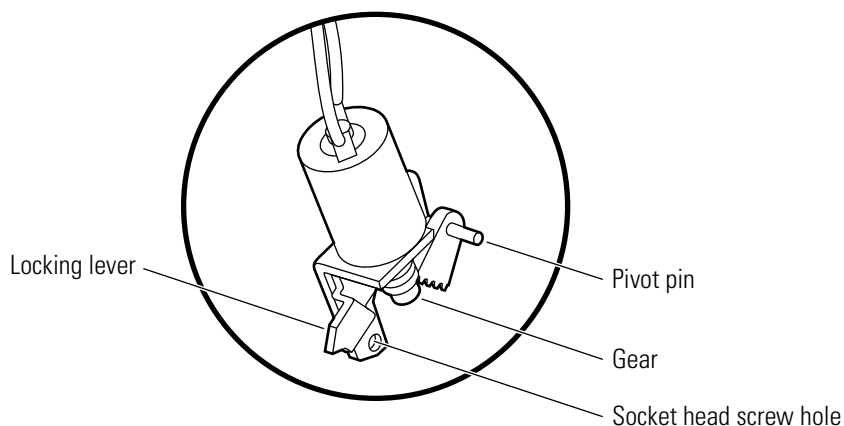

Figure 10.7 Rotating the motor assembly gear
1. Rotate the gear on the motor assembly until the locking lever is as close to the screw hole as possible, as shown in Figure 10.7.